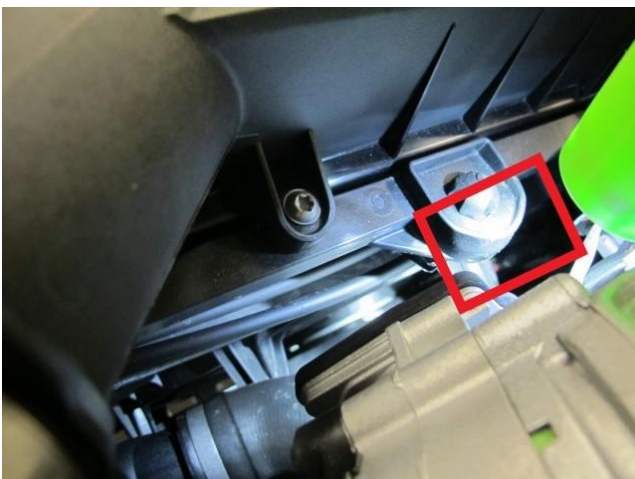

Figure 3
- 5) Referring to Figure 3 (Rear of radiator cowl) - Whilst the engine running - Visually check the cooling fan is spinning / operating